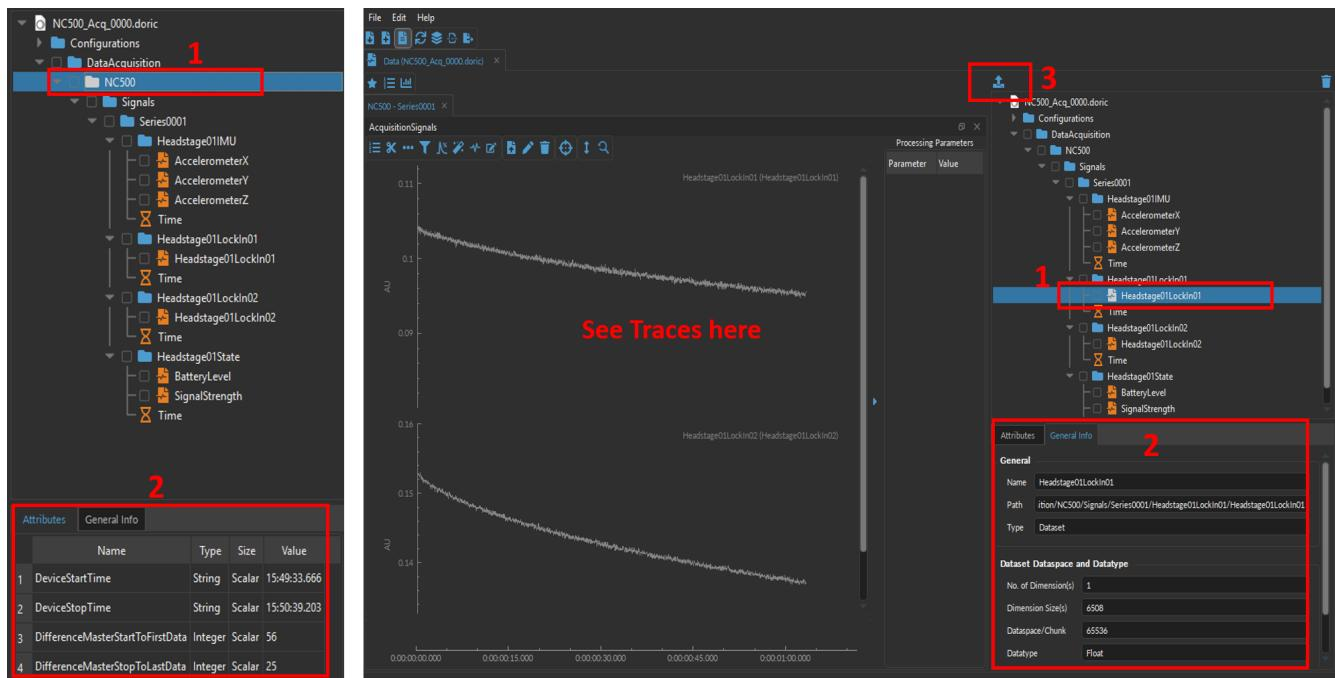

Figure 2.13: Load Data in *danse™*
- Select the **NC500** node, then click on the **Attributes** tab to view recording details such as start and stop times (Figure 2.13, left: 1, 2).
- Selecting any of the lock-in amplifier signals (e.g., Iso, Green) and navigating to the **General Info** tab will display additional information such as data dimensions and related parameters (Figure 2.13, right: 1, 2).
- Click **Load** to display the signal in the main viewer (Figure 2.13, right: 1, 3).